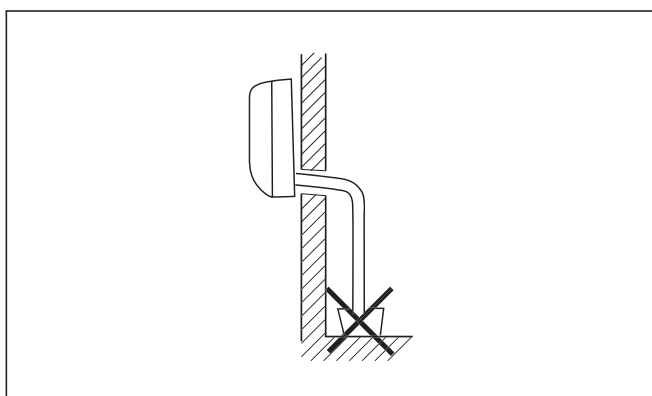

Fig. 9.3 Avoiding submerging the end.
- If the drain is run to a tank or butt, avoid installing the condensed water pipe with its free end submerged in water (see Figure 9.3).